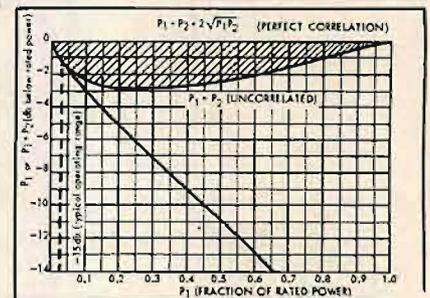

Fig. 2. Power distribution in dual-channel amplifier.
(B) of Fig. 2 shows the low-frequency equivalent mechanical circuit of the complete vented enclosure system. The approximate resonant frequencies of the system are:
This relationship is plotted in Fig. 2 where the lower curve is  $P_2$  and the horizontal axis is  $P_1$ . The middle curve shows the time average sum of the powers or the total output power of the amplifier. The powers may be added directly only when the assumption is made that the frequencies are different. When there is any correlation between the signals in the two channels, a cross-product term appears in the total power; and in the case of perfect correlation (e.g. sinusoids of identical frequency and phase), the total power is  $P_{max}$  regardless of the distribution between channels. Thus, depending on the correlation and the distribution, the total available power lies somewhere within the shaded area. (Incidentally, the same is true of any single-channel amplifier. If two equal sinusoids of different frequencies are put into an amplifier, the maximum power at the output will only
sider that each channel might be operating at -15 db referred to maximum power, so that the total power output is -12 db. It may now be seen from Fig. 2 that either channel may now handle a peak at -1.5 db, a safety factor of 13.5 db. Herein lies the advantage of the simplex; if the two channels are handling uncorrelated signals, each appears to have nearly the total amplifier power in reserve. There are presently two major hi-fi applications where a pair of amplifiers is needed to handle relatively uncorrelated signals: playback systems with low-level crossover and stereo systems. It was found that the simple simplex could be applied to the former situation2, but a push-pull arrangement was desired for both channels of the stereo system. It is for this application that the following circuit was developed.